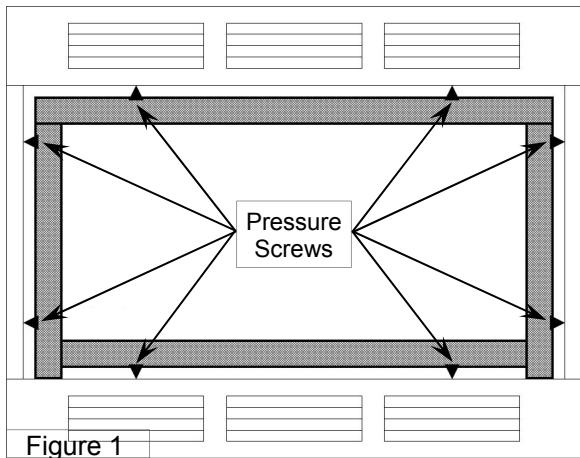

Figure 1
- Center the ZC Glass Door in the firebox opening. Tighten the Pressure Screws evenly. Don't over-tighten. (**Figure 1**)
**Figure 1** shows an inside fit with gaps around the perimeter of the Glass Door. Overlap style doors will have air-gaps on the sides of the frame or behind the frame. Never use insulation or sealant on ZC Glass Door installations.